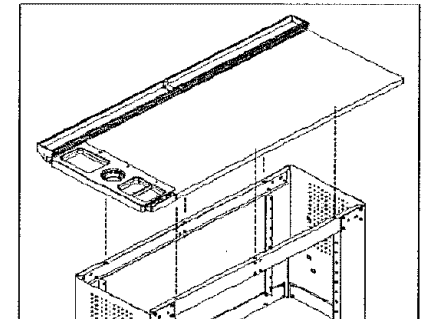

Fig. 2
- USING A PENCIL, MARK THE SIX HOLE LOCATIONS INSIDE THE FRAME AND UNDER THE TOP. (See Fig. 2)